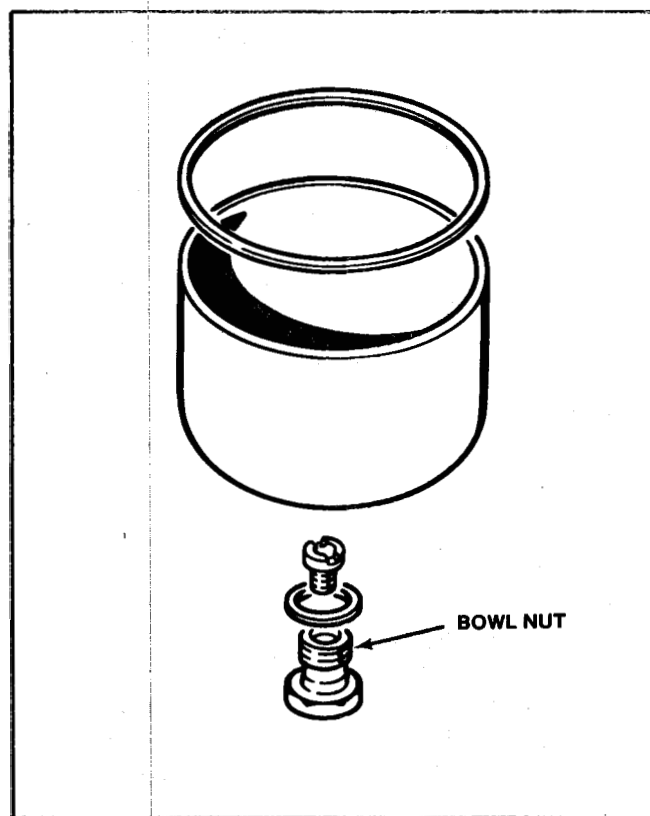

Figure 15
1. Remove the carburetor bowl nut. It is not necessary to remove the drain screw. See Figure 15.